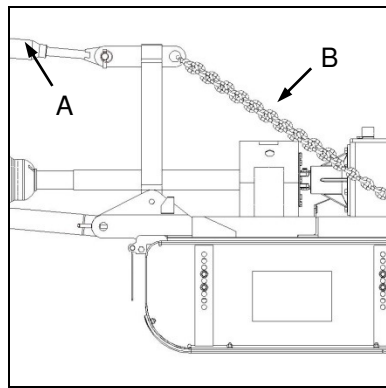

Fig. 1
- ✓ Adjust the tractor 3-point hitch top link (Fig. 1-A) to provide sufficient slack in the implement topmast chains (Fig. 1-B) to allow articulation of the implement over undulating terrain.
- ✓ Vertsel die trekker se 3-punt-boskabel (Fig. 1-A) om genoeg speling in die implement se topmaskettings (Fig. 1-B) te bied om artikulasie van die implement oor ongelyke terrein toe te laat.